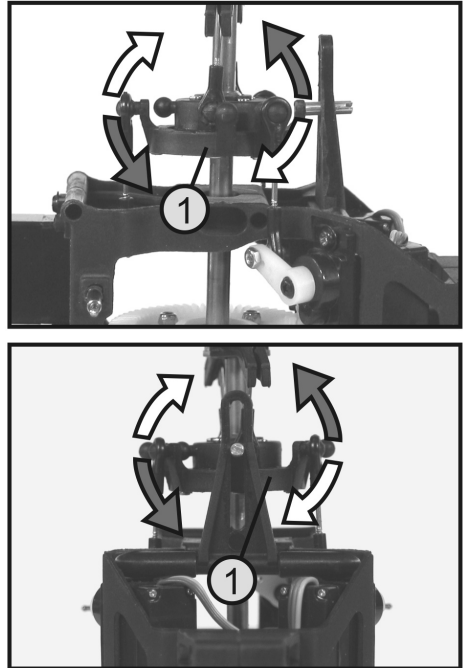

Figure 15
When moving the control stick for the nod and roll function (also see figure 1, item 6) forward and backward, the swash plate (1) must tip forward and backward as well according to the control stick movement (see upper image in figure 15).
If you move the control stick for the nod and roll functions to the right and left, the swash plate must tilt to the right and left as well (see bottom image in figure 15).